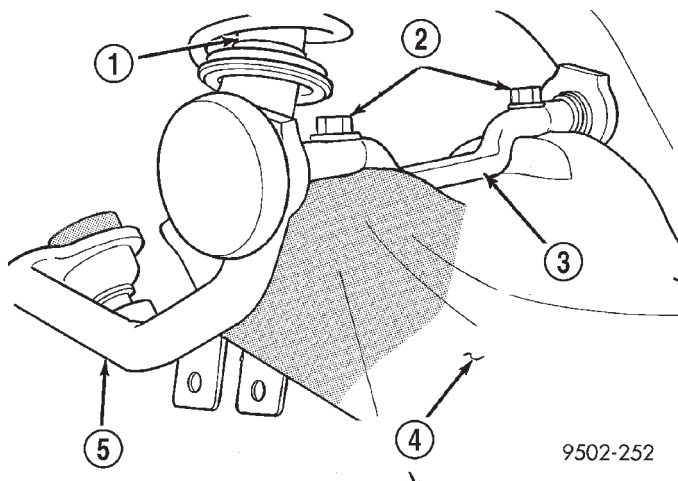

Fig. 28 Upper Control Arm Attachment To Crossmember
(11) Remove the 2 bolts (Fig. 28) attaching the upper control arm to the rear suspension crossmember.
(1) Align the upper control arm pivot bar with the mounting holes in the rear suspension crossmember. Install the pivot bar attaching bolts and washers. Tighten the 2 pivot bar to crossmember attaching bolts (Fig. 28) to a torque of 108 N·m (80 ft. lbs.).